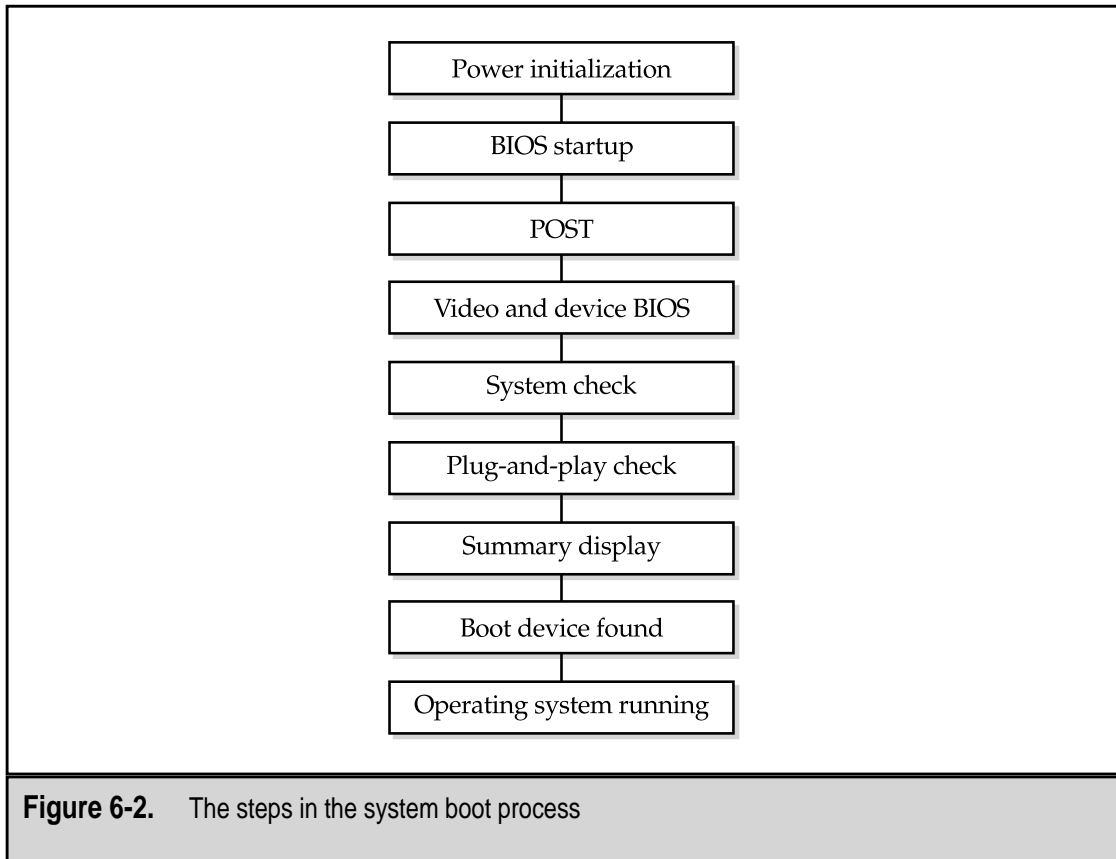

Figure 6-2. The steps in the system boot process
The most important action of the BIOS is to boot the PC. The process used to do this is actually a fairly complex sequence of steps that verifies the configuration, checks the hardware, and loads the software. The actual steps included in a particular BIOS' boot sequence can vary by manufacturer, but the following are typical of the steps normally performed during the system boot sequence (reference Figure 6-2 as you go through the boot sequence steps):
1. When you turn on the PC's power switch, the internal power supply initializes itself. As I will discuss in Chapter 14, the power supply does not provide power to the rest of the PC immediately. As soon as the power supply is able to supply reliable power to the motherboard, it transmits a "good power" signal to the motherboard's chipset (see Figure 6-2), which sends a system reset command to the processor (step 2 in Figure 6-2). At this point, from all outward appearances, the PC looks as if it is still powered off.
2. The system reset command sent by the motherboard's chipset causes the CPU to read its first instruction from what is called the jump address (step 3 in Figure 6-2). The *jump address* is always located in a fixed preset location, typically address FFFF0h in system memory. The jump address contains the physical address of the BIOS' boot program on the ROM BIOS chip (see "ROMs, PROMs, and EPROMs: BIOS Chips" later in the chapter for more information on the ROM BIOS).
3. The CPU executes the first instruction, which copies the BIOS programs into system memory (steps 4 and 5 on Figure 6-2) and starts the BIOS running.